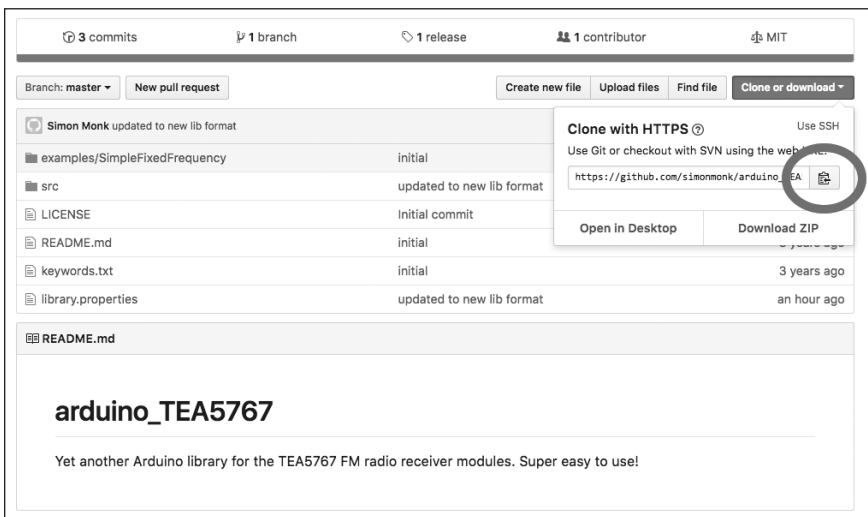

Figure 17-3 Copying the repository URL from GitHub.
1. On the GitHub page for your new repository, click on the “Clone or Download” button and then copy the URL for your repository (see Figure 17-3).